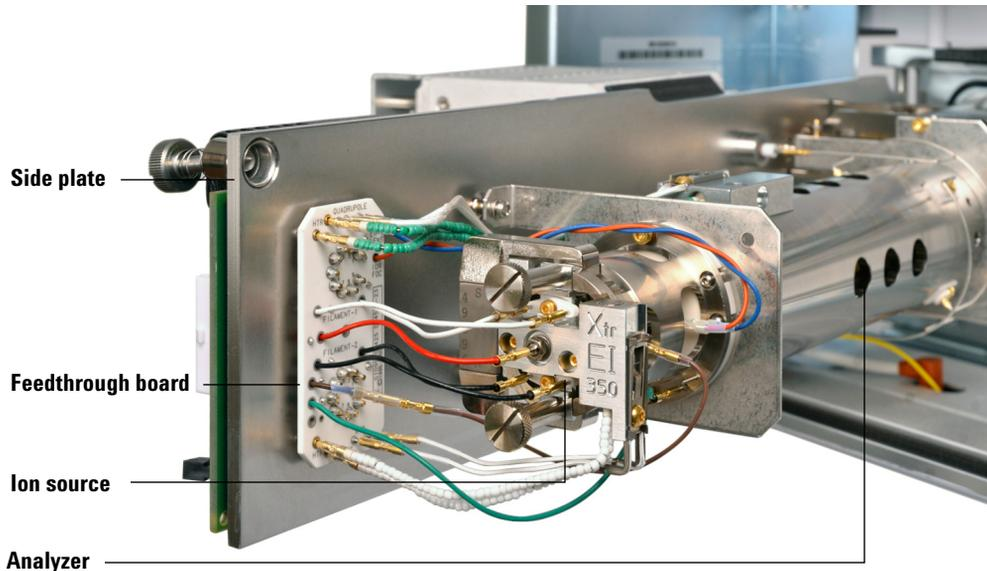

Figure 10 The analyzer chamber
- 3 Loosen the front analyzer side plate thumbscrews (Figure 10) if they are fastened.